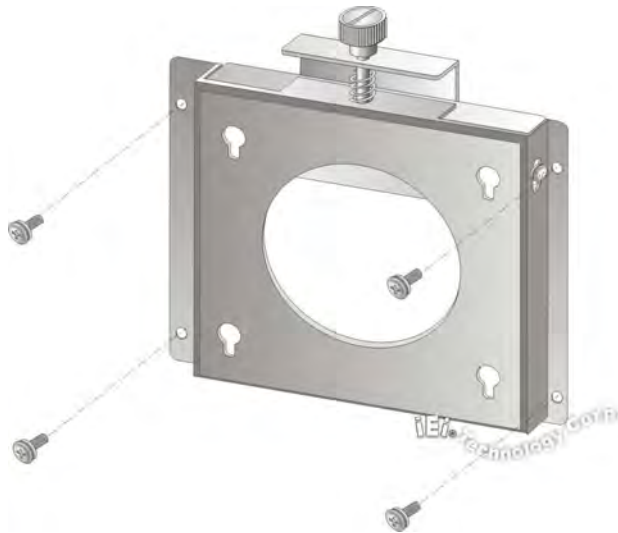

Figure 4-10: Wall-mounting Bracket
- Step 5:** Secure the mounting-bracket to the wall by inserting the retention screws into the four pilot holes and tightening them (Figure 4-10).